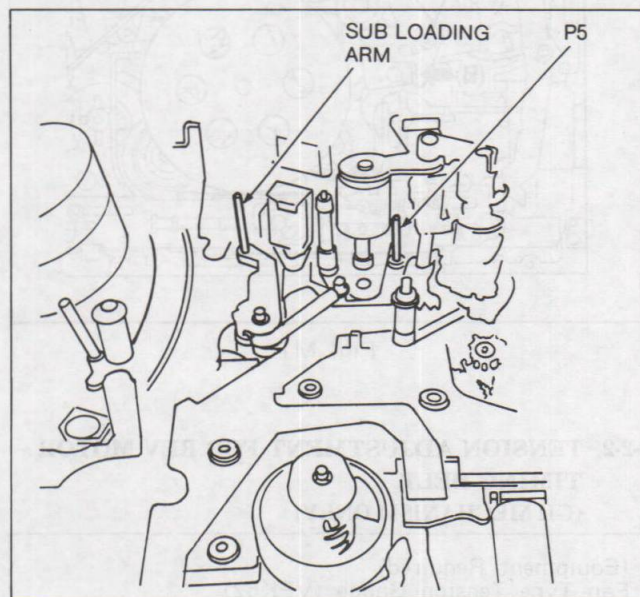

Fig. S2 STOP (STOP 1) Condition
6. Repeat item 4 and 5 until mechanism come to STOP (GII:STOP 1) position as shown in Fig. S2.